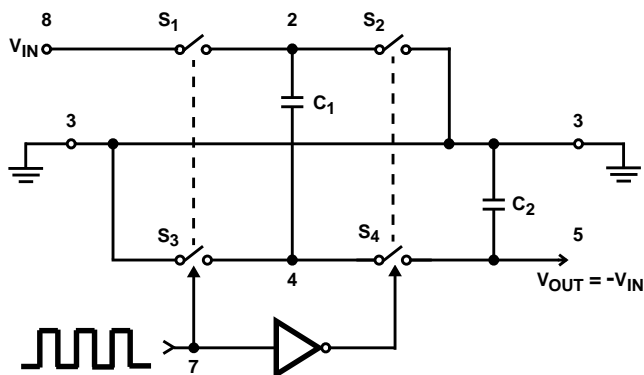
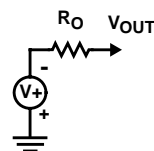

FIGURE 2. IDEALIZED NEGATIVE VOLTAGE CONVERTER
FIGURE 3. ICL7660S EQUIVALENT CIRCUIT
The ICL7660S contains all the necessary circuitry to complete a negative voltage converter, with the exception of 2 external capacitors which may be inexpensive 10μF polarized electrolytic types. The mode of operation of the device may be best understood by considering Figure 2, which shows an idealized negative voltage converter. Capacitor C1 is charged to a voltage, V+, for the half cycle when switches S1 and S3 are closed. (Note: Switches S2 and S4 are open during this half cycle.) During the second half cycle of operation, switches S2 and S4 are closed, with S1 and S3 open, thereby shifting capacitor C1 to C2 such that the voltage on C2 is exactly V+, assuming ideal switches and no load on C2. The ICL7660S approaches this ideal situation more closely than existing non-mechanical circuits.
In the ICL7660S, the 4 switches of Figure 2 are MOS power switches; S1 is a P-Channel devices and S2, S3 and S4 are N-Channel devices. The main difficulty with this approach is that in integrating the switches, the substrates of S3 and S4 must always remain reverse biased with respect to their sources, but not so much as to degrade their “ON” resistances. In addition, at circuit start up, and under output short circuit conditions (VOUT = V+), the output voltage must be sensed and the substrate bias adjusted accordingly. Failure to accomplish this would result in high power losses and probable device latchup.
The output characteristics of the voltage converter (Figure 1A) can be approximated by an ideal voltage source in series with a resistance as shown in Figure 3. The voltage source has a value of -(V+) with a slight ripple voltage due to the ICL7660S switching between C1 and C2. The output impedance (RO) is a function of the ON resistance of the internal MOS switches (shown in Figure 2), switching frequency, the value of C1 and C2, and the equivalent series resistance (ESR) of C1 and C2.